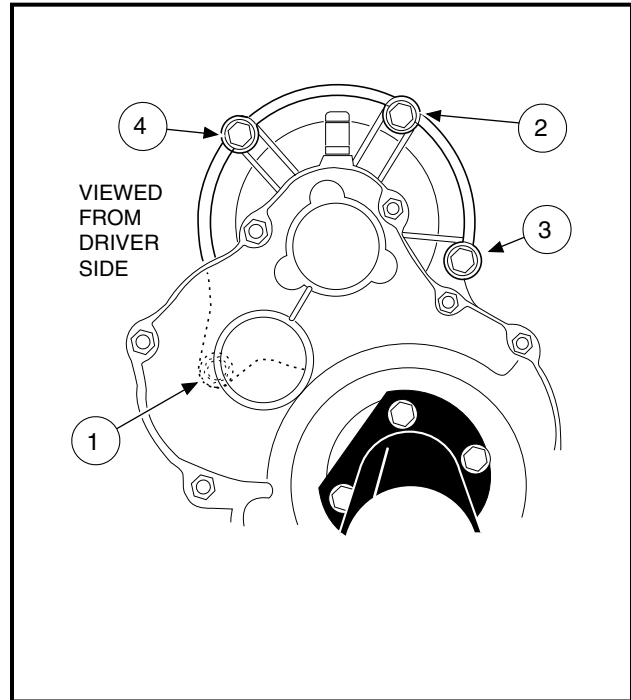

Figure 15-19 Motor Mount
- 4.3. Begin finger tightening the bolts (1 and 2) in the sequence indicated (**Figure 15-19, Page 15-15**). Continue tightening by hand until the motor is seated in the transaxle housing. **See following CAUTION and NOTE.**
- 4.5. Tighten the center bolt (2) to 65 in-lb (7.3 N·m) (**Figure 15-19, Page 15-15**).